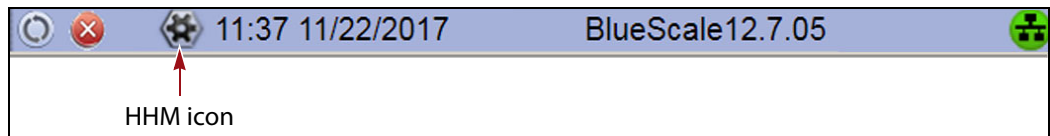

Figure 222 The HHM icon is located on the status bar.
3. Click the HHM icon on the status bar (see Figure 222 on page 368). The Hardware Health Monitoring screen displays.